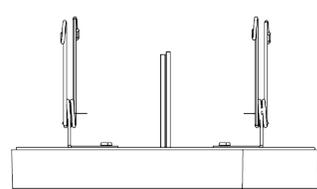

Fig. 13
2. Connect mounting bracket to the fixture by pushing down until it clicks into place. (Fig. 13)